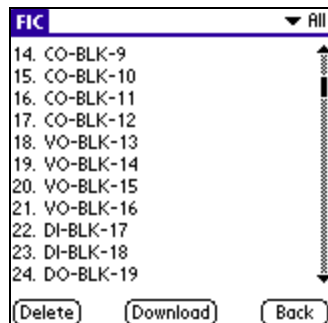
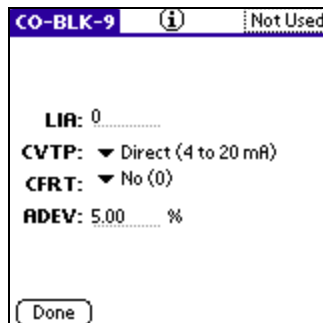

Figure 9A
Figure 9B
- From the main programming screen (Figure 9A), select the desired block, for example Block 9 (Figure 9B).